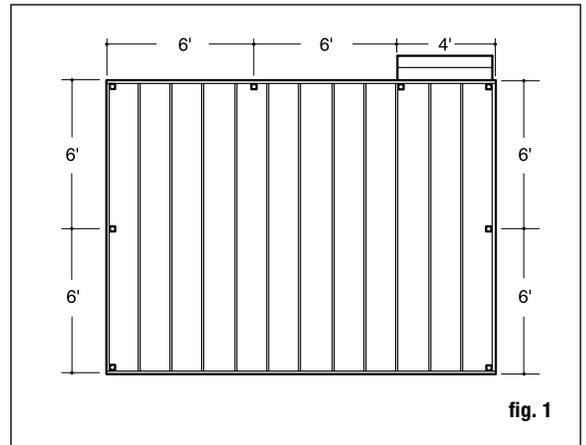

fig. 1
**Step 1** Determine the number of railing posts needed for your deck. Post spacing is 6' or 8' on-center. Example: A 12'x16' deck attached to a building with a 4' access opening on one side will require a total of eight posts (fig. 1).